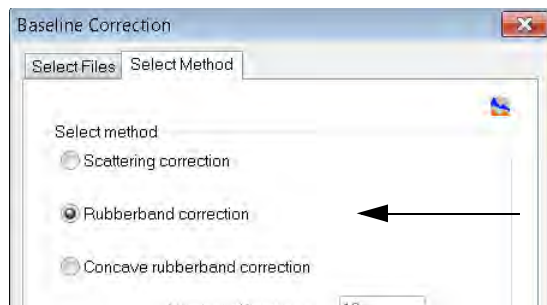

Figure 4.10: Baseline correction - Select method
4. On the dialog that opens, select a baseline correction method (figure 4.10).